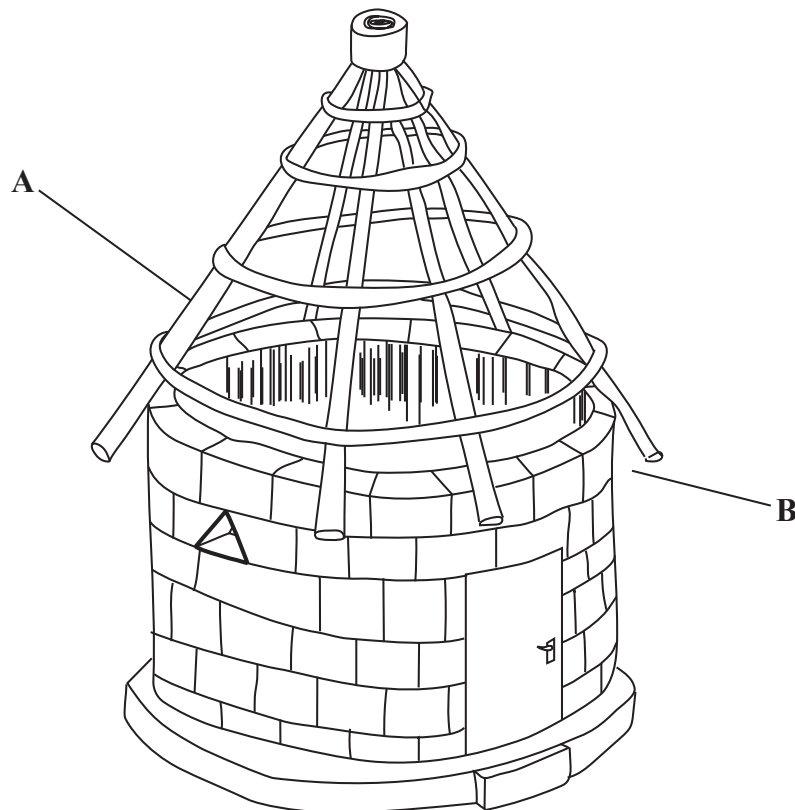

Fig. 9
- 9 **Figure 9** shows an incomplete roof structure of a thatched hut. Label the parts shown **A** and **B**.